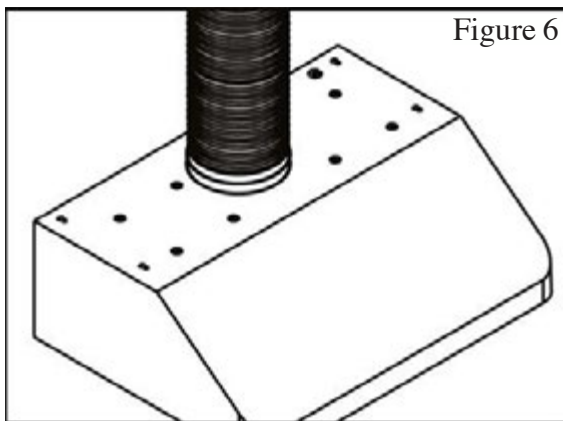

Figure 6
3. Use 7" round steel pipe (follow building codes in your area) to connect the exhaust on the hood to the duct-work above. Use silver tape or duct tape to make all joints secure and air tight. Refer to Figure 6.